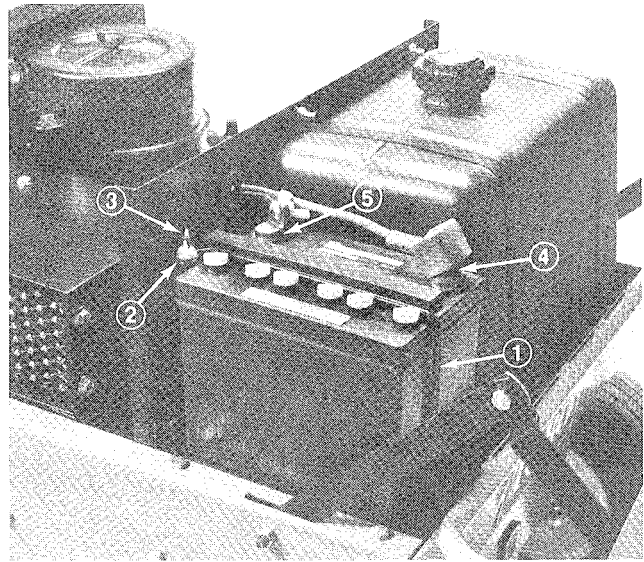

Figure 6
1. Mount battery on battery support with terminal posts toward gas tank (Fig. 6).
2. Secure battery with clamp, support rod and wing nut (Fig. 6).
3. Install the (red) positive cable (rubber boot over end) to the positive (+) terminal and the negative cable (black) to the negative (-) terminals of the battery and secure with carriage bolts and wing nuts. Slide the rubber boot over the positive terminal to prevent possible short-out from occurring (Fig. 6).